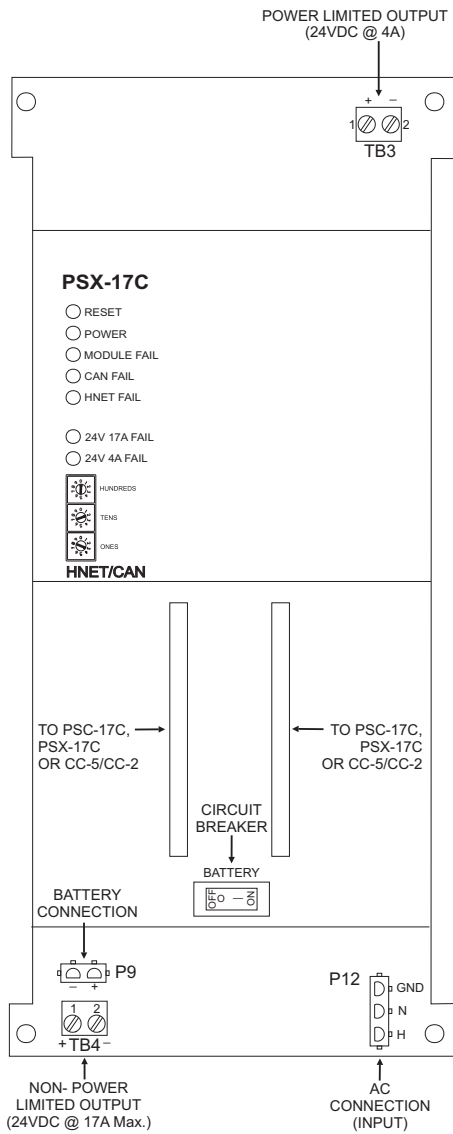

Figure 2
The PSX-17C has one reset switch, six LEDs, three address switches, one circuit breaker, two terminal blocks, two terminal connections and two 60 pin flat ribbon connections as shown in Figure 2. The ribbon cable connectors are used to connect the PSX-17C with a PSC-17C, additional PSX-17Cs or a Card Cage (CC-2/CC-5).
The terminal blocks of the PSX-17C are defined as follows (refer to Figure 2):
This output is normally connected to the modules and cards located on the door of the enclosure or to the remote CAN network modules. This output is power limited to NFPA 70 per 760. All wiring must be in accordance with Article 760 of NEC or local building codes (See Figure 2).
This output is normally connected to the input terminals of the CC-5. All wiring must be in accordance with Article 760 of NEC or local building codes (See Figure 2).
- CAN Network Address Switches:** Set the three-digit CAN network address for the PSX-17C using the three rotary dial address switches located below the LEDs on the front panel. (Refer to Figure 2 for the location of the switches.) The address for the PSX-17C must be the same as the address selected for it in the Zeus Programming Tool. To set the address, turn the pointers on each of the three dials to the numbers for the selected address. For example, if the address is 023, set the pointer for the HUNDREDS dial to "0," set the pointer for the TENS dial to "2," and set the pointer for the ONES dial to "3." The range of allowable addresses is from 001 to 099 (leading zeros must be used).